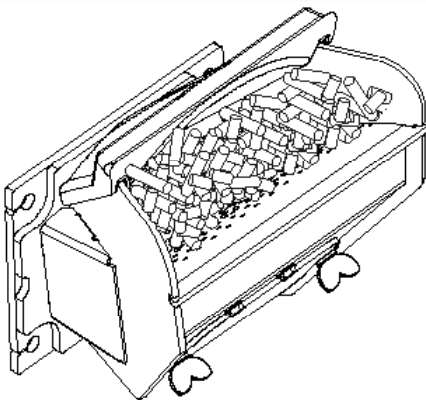

Fig. 14
3. Fill burnpot with pellets as shown. See Fig. 14. Only fill level with the front edge. (DO NOT OVERFILL)